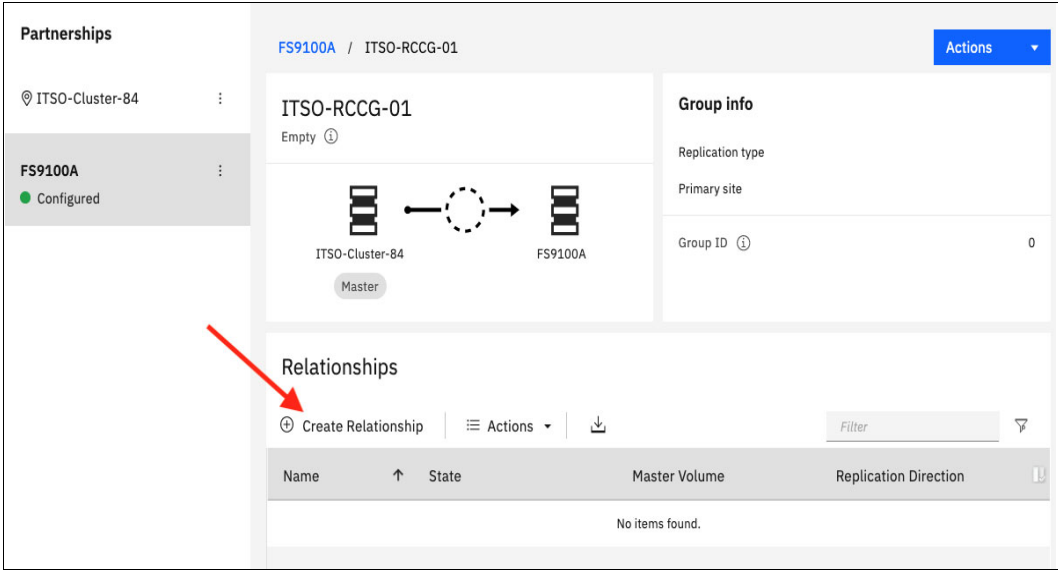

Figure 10-114 Creating a Remote Copy Relationship in an existing consistency group
3. If you want to add the relationship to an existing consistency group, select the consistency group for which you want to create the relationship and click **Create Relationship**, as shown in Figure 10-114.